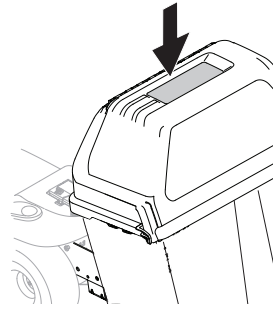

Figure 25
1. While mowing, periodically stop and check the viewing window on top of the grass catcher cover. See Figure 25.